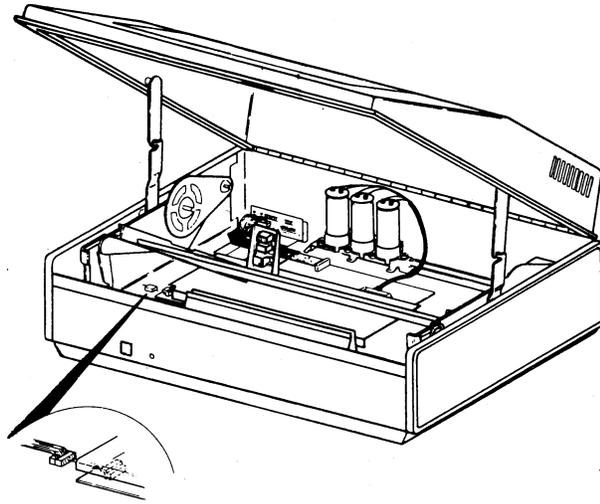

Fig. 3—Connectors
2.06 Check connector P6 at the left front of the integrated controller (Fig. 3) and make sure it is securely connected.